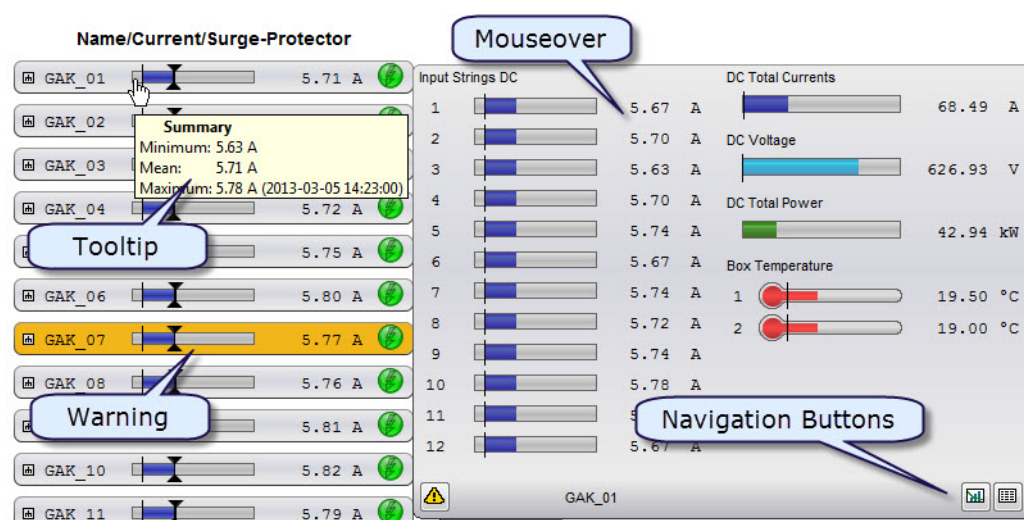

Fig. 55 *Combiner Boxes: Mouseover, Tooltip & Warning*
- Moving the mouse over the combiner box indicator will cause a mouseover display to appear showing bar indicators and corresponding numeric values for the individual string currents, total combiner box current, system voltage, total power and box temperature. At the bottom there are navigation buttons to open an alarm view, and to display a chart or table of the data from the mouseover display (Fig. 55 on p. 69)